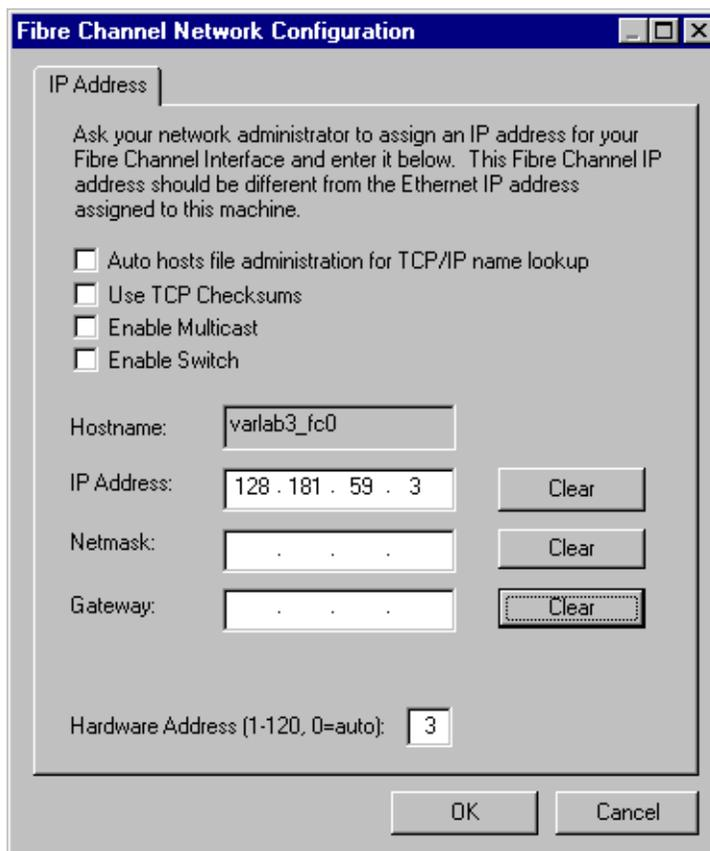

Figure 41. Fibre Channel Network Configuration dialog box
1. Choose **Option | Fibre Channel Networking** or click the **Fibre Channel Networking** button on the toolbar. The Fibre Channel dialog box appears (see Figure 41).